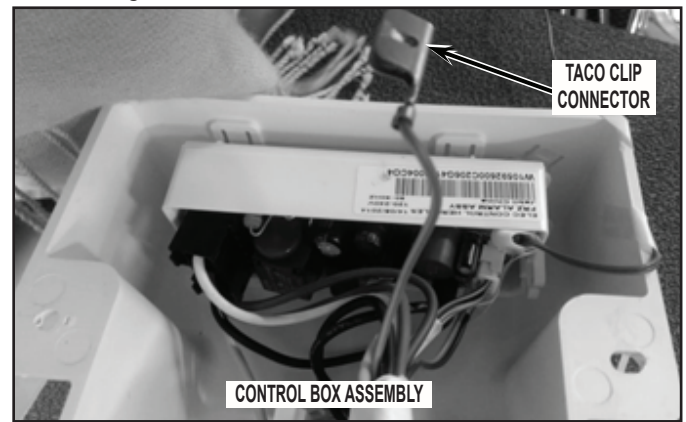

FIGURE 7
9. Mount the buzzer behind the glider rail using the screw removed in step 3, by putting the screw through the hole below the orientation clip. The buzzer wires should be facing downward. See *Figure 7*.
16. Disconnect the taco clip that grounds the heat shield. See *Figure 7*.